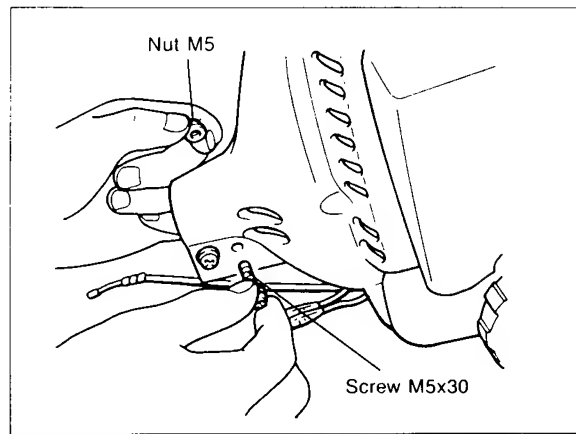

Fig. 5
1. Insert the nuts M5 into the hex holes in the holder case. Insert the screws M5x30 through the opposite holes and semi-tighten the screws M5x30. (Fig. 5)